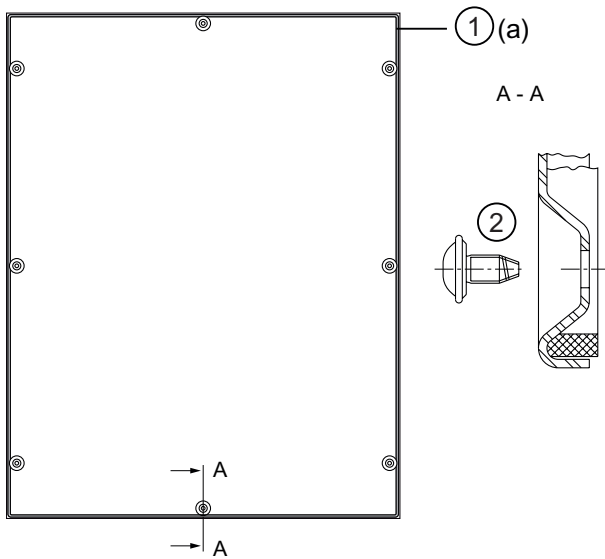

Fig. 4
- 1 9x4 mm sealing tape must be attached all around the side and back walls to achieve IP54 degree of protection. See Figure 4 (a).